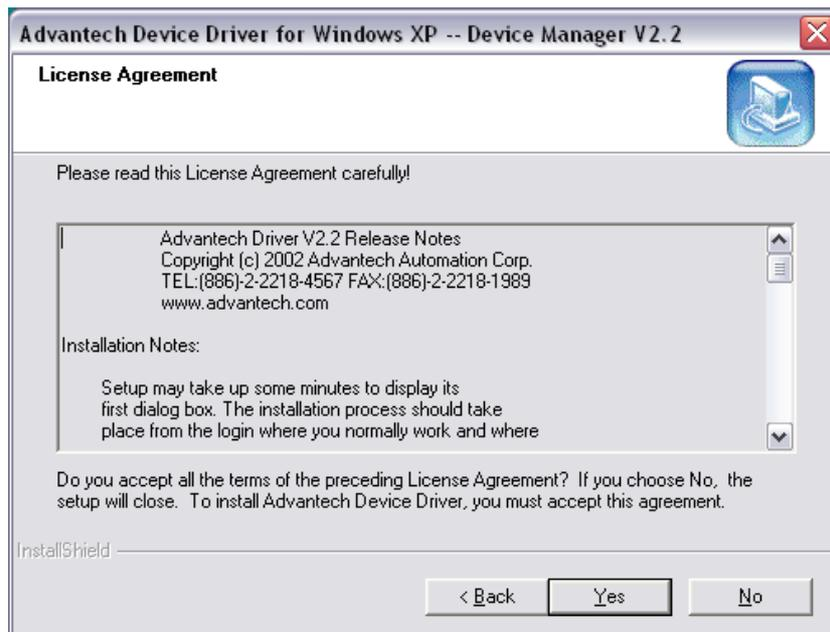

Figure 6 License Agreement Window
5. Press 'Next' to continue to the License Agreement window presented in Figure 6.